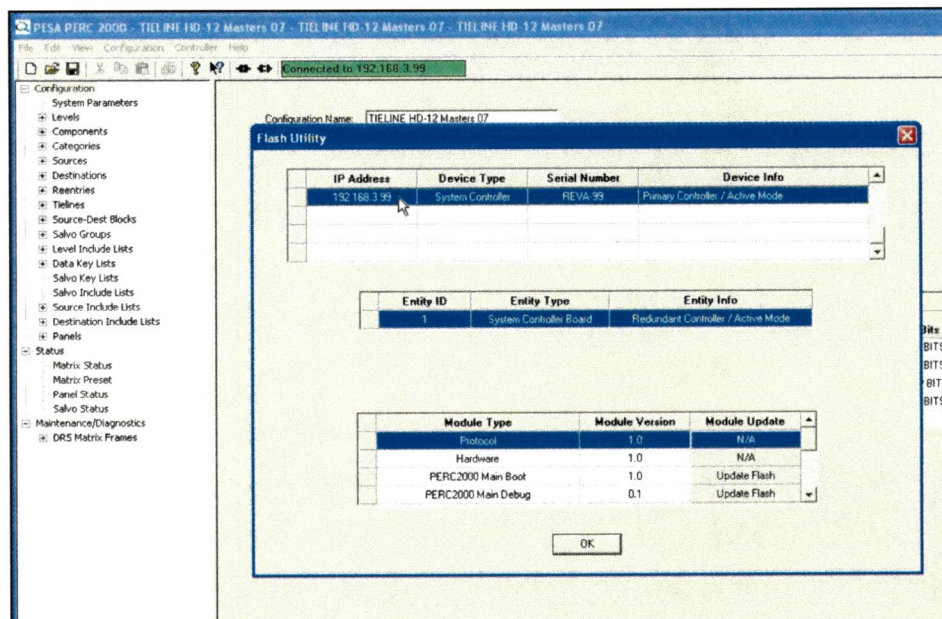

Figure 15. Flash Utility Screen
4. This will bring up the Flash Utility window as shown in Figure 15. All devices in the system that are under control of the GUI and assigned an IP address are displayed in the top box of the window. Locate the P2K system controller board by IP address and click on the entry. The entry is highlighted as an indication it is the device chosen for flash update.